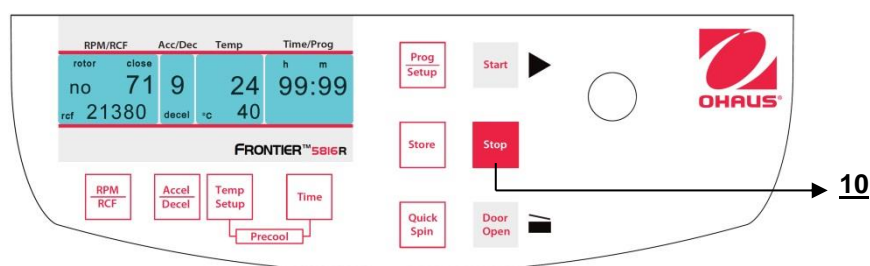

Figure. 27
By the **"Stop"** key (10) (See figure 27) you can interrupt the run at any time. After pressing the key the centrifuge decelerates with the respective pre-selected intensity down to stand still.